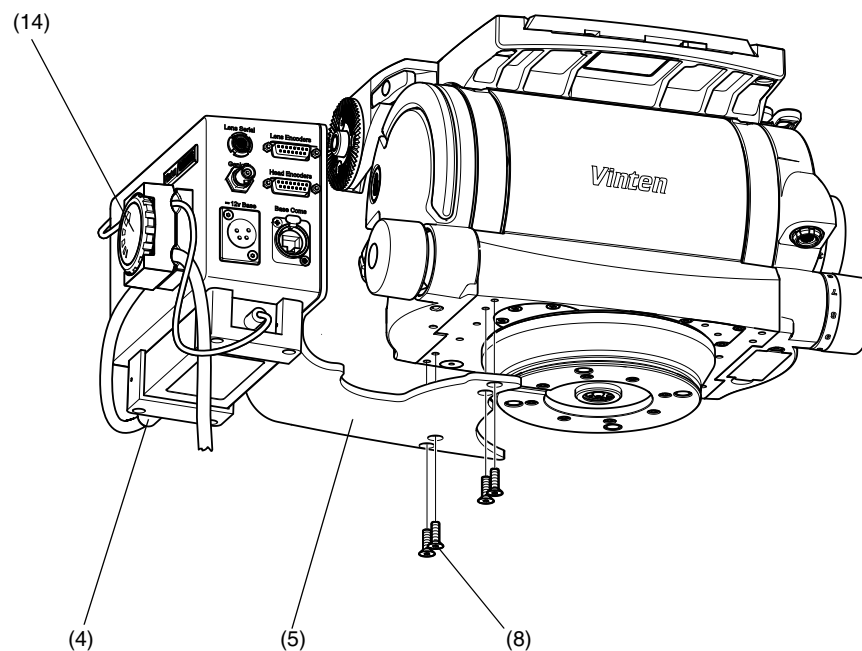

Figure 2 Fitting to a Vector 950E head
The HPM is supplied with a mounting bracket (5) which attaches to fixing holes on the pan and tilt head. If fitting the HPM to a Vector 950E head, position the head mounting bracket (5) as shown in (Figure 2) and attach securely in place using the four fixing screws (8).
NOTE: Also ensure that the (input) power lead (4) is secured by the cable clamp (14) to prevent the HPM suddenly losing power if the cable becomes snagged (Figure 2).